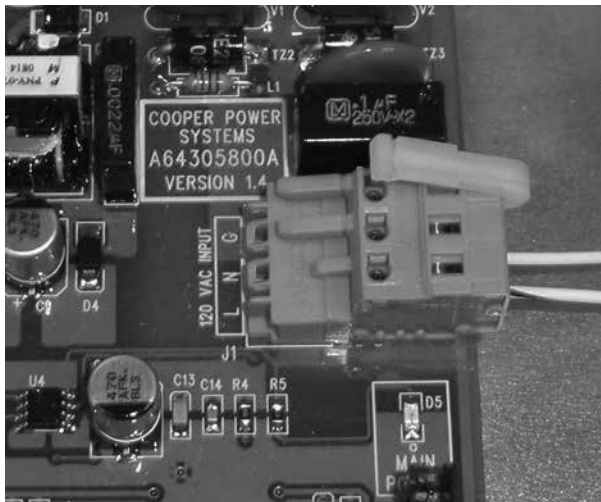

Figure 7. Connecting power to communications module
12. Connect the white/black lead (Item 11) to the "L" terminal; connect the white lead (Item 14) to the "N" terminal. See Figure 7.